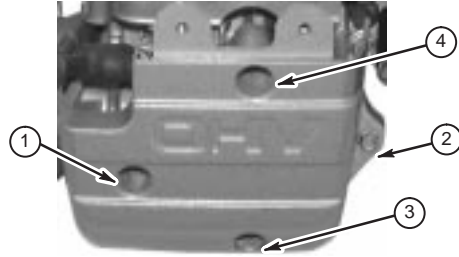

Fig. 65 – Valve Cover Torque Sequence
- Install valve cover with new gasket. Install four screws, and tighten screws to torque listed in Table No. 5, Page 32, in sequence shown in Fig. 65.